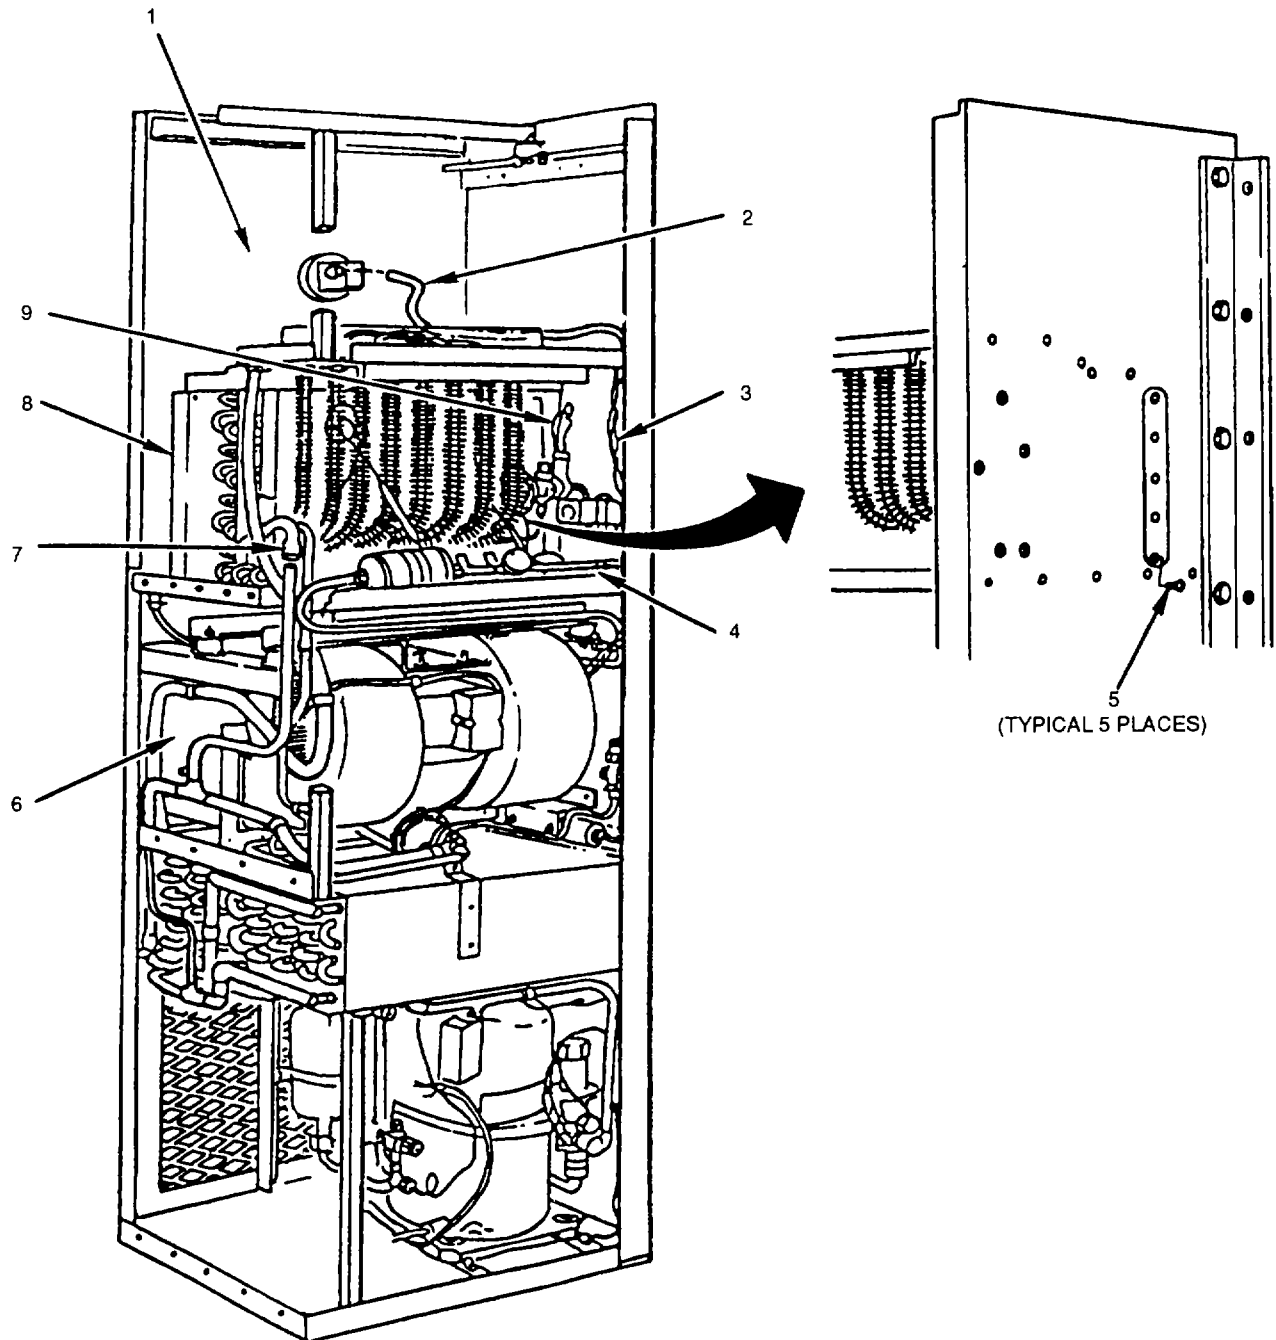

Figure 6-4. Evaporator Coil
- a. Remove drier filter (F1) (paragraph 5.23) (see fig 6-4).
- c. Remove liquid quench sensing bulb (paragraph 5.29) and pull down to condenser compartment (6).
- d. Remove bolt (4) securing primary expansion valve to mounting bracket (paragraph 5.30).
- e. Pull air differential hose (2) up to evaporator fan compartment (1).
- g. Pull wiring harness (3) down to condenser compartment (6).